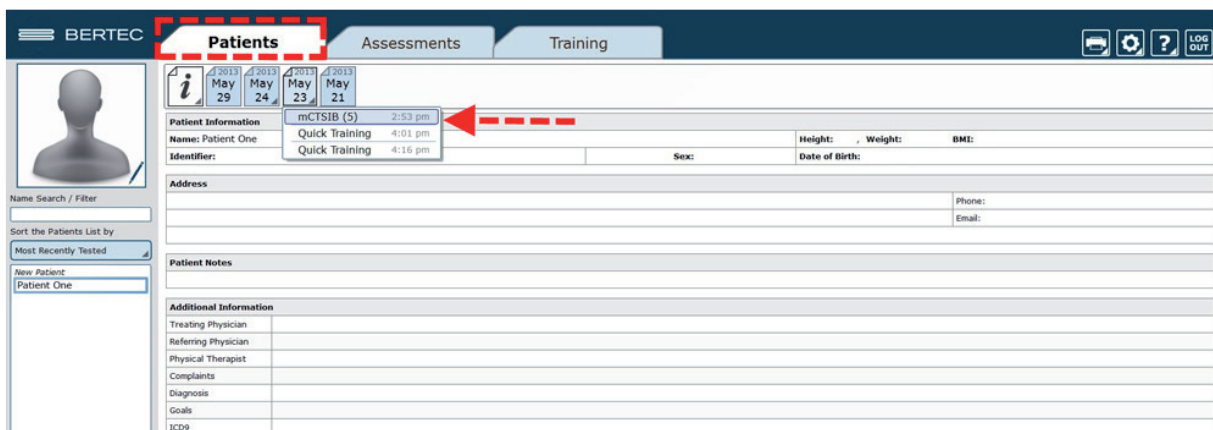

Figure 26: Return to Patient Screen to View Progress Reports
4. Progress reports can be viewed by returning to the Patients tab, shown in Figure 26.